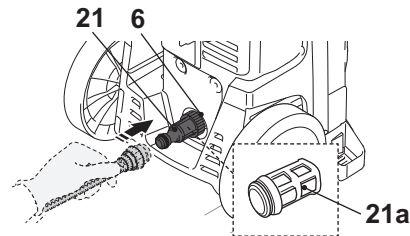

Fig. 16
1. Attach the water inlet hose adaptor with water filter (21) on the water inlet (6) (Fig. 16).
2. Attach a suitable water hose (not included) onto the water supply and then the other end onto the water inlet hose adaptor with water filter (21).